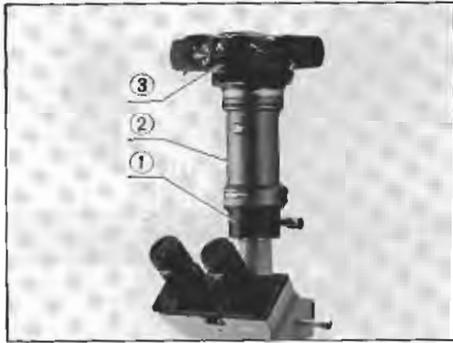

Fig. 28
- 1) Mount the photo eyepiece adapter PM-ADF ① (into which a choice of NFK photo eyepiece is inserted), Photomicro adapter (MOM-L) ② and OM camera back ③; on the photo tube in this order. (Fig. 28)